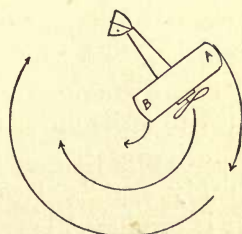
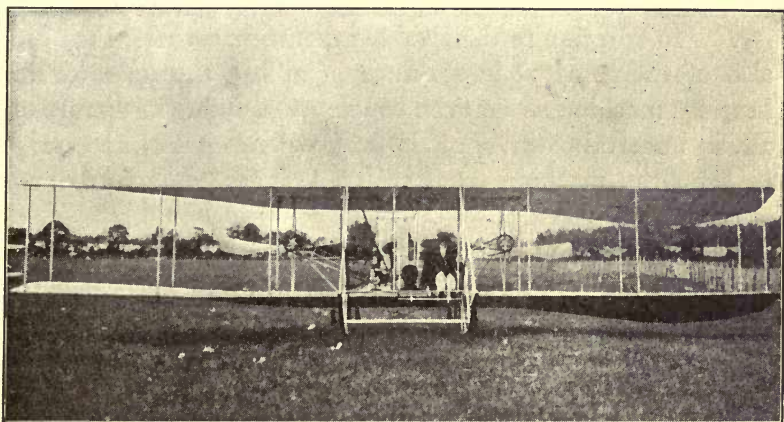

Fig. 6
Fig. 7
If we examine the diagram Fig. 6, which represents an aeroplane turning in a circle, we will find that the outer wing (A) must travel a great deal farther than the inner wing (B), just as the outer rim of a wheel turns farther in making a revolution than does the hub. In order to accomplish this the outer tip of A must travel through the air at a much greater speed than the inner wing-tip (B). As I have already explained that the faster a plane moves the more lift it produces, it will be easily understood that the excess in speed of A must tend to lift the outer wing-tip and that
The warping-wing consists of a flexible portion of the outer end of the planes connected by cables with the operator's control in such a way that the wing or plane may be bent or twisted (Fig. 7). By bending down one wing and bending up the other the planes can be made to present a greater or less resistance and lift to the air. Thus, in turning a corner, as shown in Fig. 6, the speed of the outer wing, A, may be decreased by warping down that wing, and the speed of B accelerated and its lift increased by the same control-cables, so that the tendency to tip up is neutralized and the machine remains practically on a level keel.